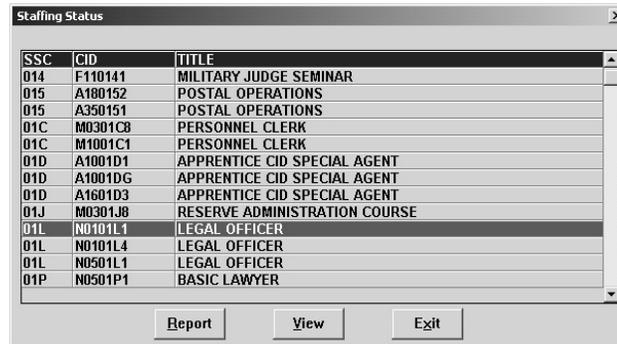

Figure 6-14. Staffing Status
4. Choose CID Table. Then choose Staffing Status. The Staffing Status selection list box (Figure 6-14) opens.
7. If you wish to see all the staffing status information for a selected course, choose the desired course and click on **View**. Note that you can search by SSC by right-clicking in the Staffing Status dialog box (Figure 6-14). The Status Staffing Information for Course dialog box (Figure 6-16) opens for you to review the entries.
7. If you wish to see all the credit recommendation entries for a selected course, choose the desired course and click on **V**iew. Note that you can search by SSC by right-clicking in the Staffing Status dialog box (Figure 6-14). The Credit Recommendation Information for Course dialog box (Figure 6-19) opens for you to review the entries.